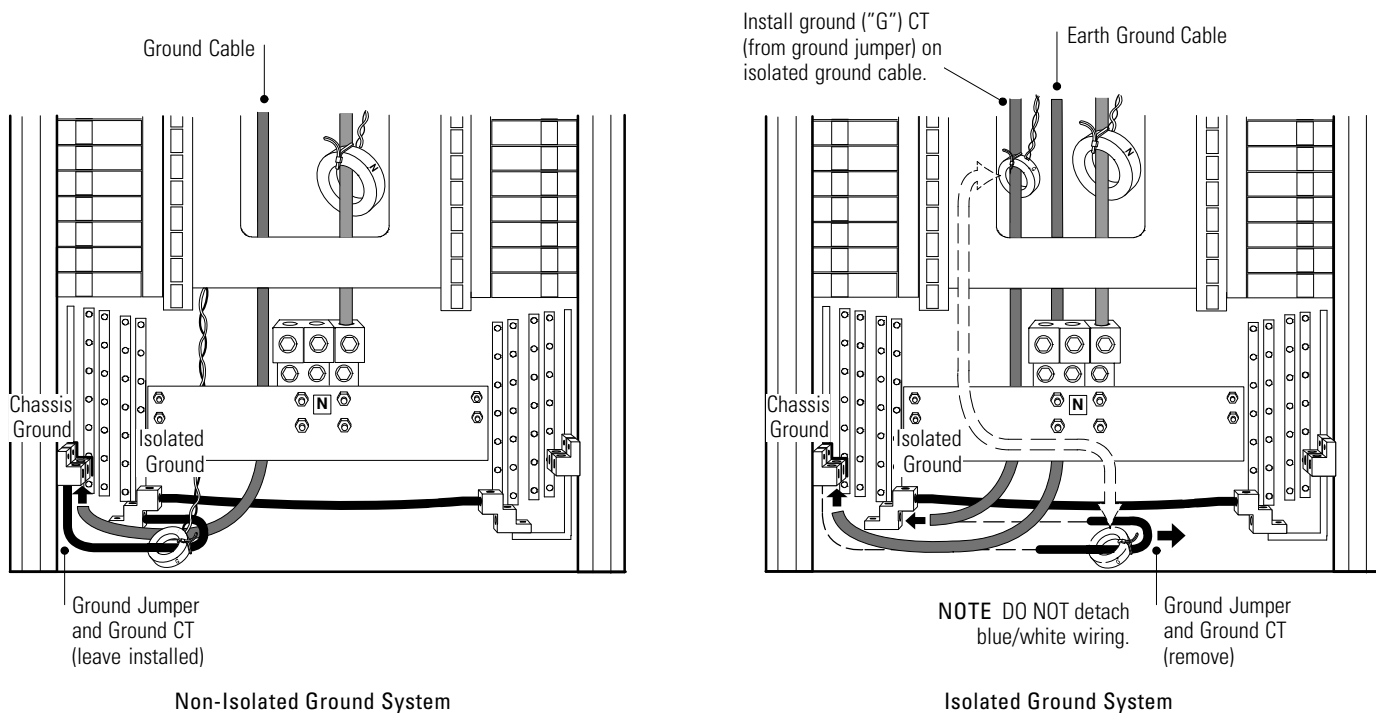

Figure 14. Installing the Ground System (Dual 800A Main Input Lug, Dual 400A Main Input Breaker, and Dual 600A Main Input Breaker)
10. Dual 800A Main Input Lug, Dual 400A Main Input Breaker, and Dual 600A Main Input Breaker configurations. The cabinet has a ground jumper installed from the chassis ground to the isolated ground busbar, with a ground CT installed on the ground jumper. Adjust the installation for the required ground system (see Figure 14, and Table 2 and Table 3 on page 19):
NOTE Figure 14 shows top entry wiring, optional neutral CTs for measured neutral current, and front access installation.